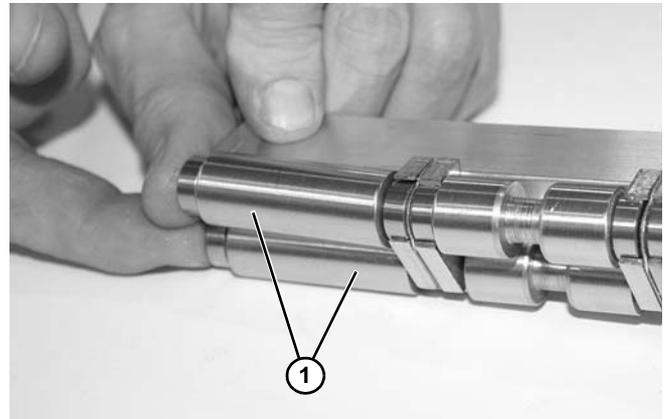

Figure 67
7. Remove spindles (Figure 67, item 1).